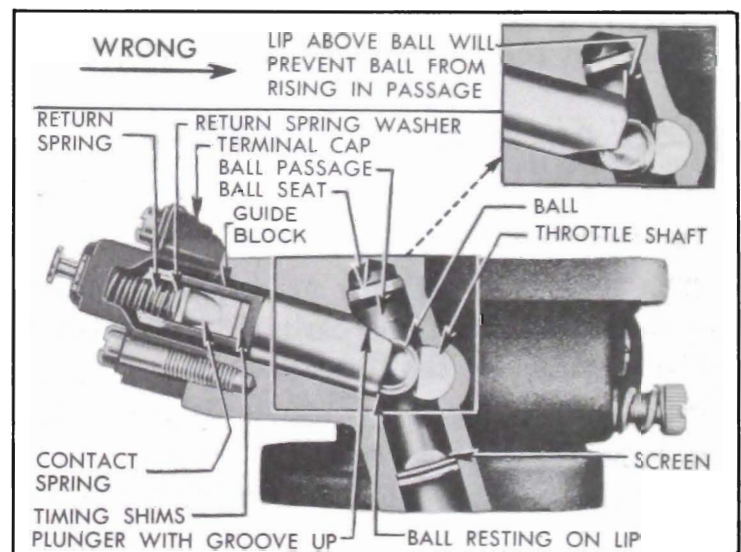

Figure 10-22—Assembly of Carburetor Starter Switch
1. Disconnect wires from terminals. Hold down on switch terminal cap while removing hold down clip. Remove terminal cap and return spring, then lift out switch guide block with contact spring and shims. Do not lose timing shims and the spring washer on contact spring. See figure 10-22.
9. Place plunger in position with the groove up so that the ball rests on lip at inner end of plunger. See figure 10-22. If the plunger is installed with groove down, the ball will be prevented from rising into the ball passage when the engine starts. As a result, the switch will close each time the throttle is opened, causing gear clash at low speeds when the generator is not producing sufficient voltage to open the solenoid relay. If generator should be inoperative, gear clashing would occur at all speeds.
10. Make sure that all timing washers, contact spring, and the return spring washer are in proper position before installing the return spring and terminal cap. Make sure that terminal cap is properly seated. See figure 10-22.